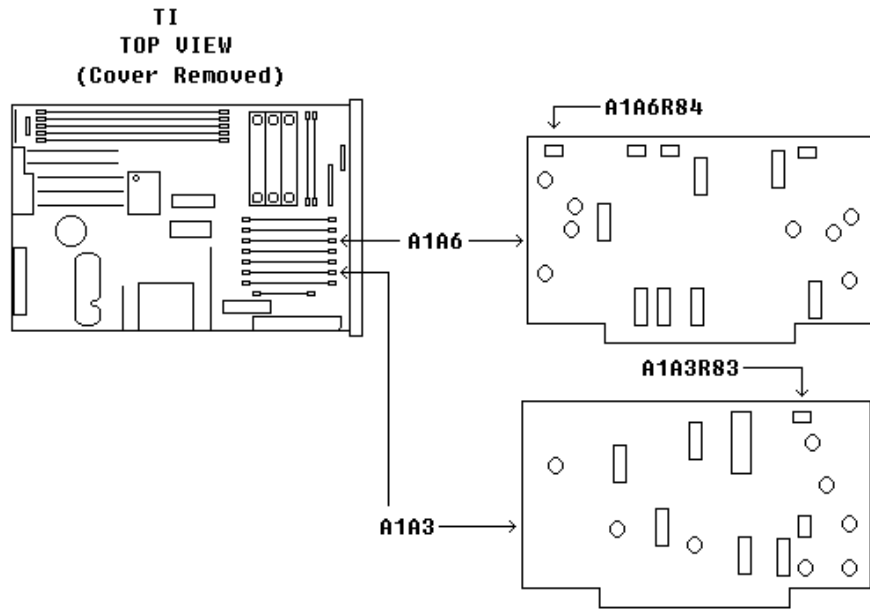

Figure 13. AM adjustment locations.
(2) Press TI keys as listed in (a) through (g) below:
(3) Set the audio analyzer to produce a 1 kHz, 1.06 V output with 600Ω output impedance, then select special function 17.
(4) Set measuring receiver and local oscillator to measure 16.6 GHz, then select **AM** measurement and **+ PEAK** detector.
(5) Adjust A1A3R83 (fig. 13) for an indication of 73.0% AM on the measuring receiver (R).
(6) Adjust A1A6R84 (fig. 13) until TI meter indicates 75% on middle scale of output meter (R).